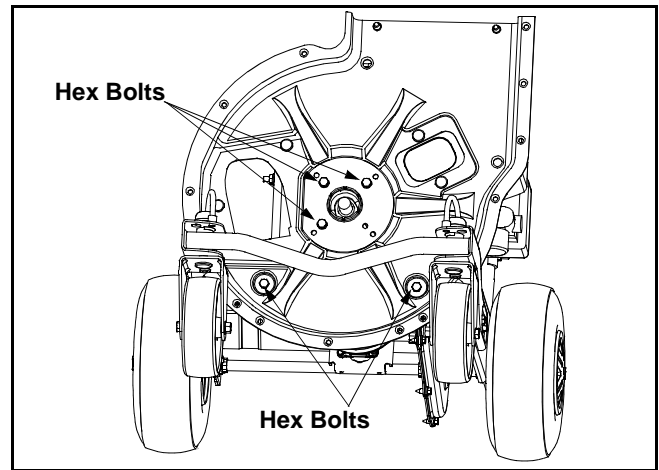

Figure 14
- Remove the inner housing and mounting adapter by removing the five hex bolts and two hex nuts. See Figure 14.
- Place the inner housing against mounting adapter and frame. Secure with the five hex bolts and two hex nuts previously removed. Refer to Figure 14.